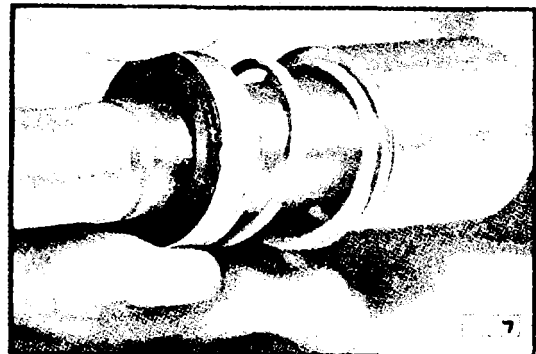

Figure 4.
5. Remove seal subassembly (Fig. 4) and gasket from under the stationary seat.